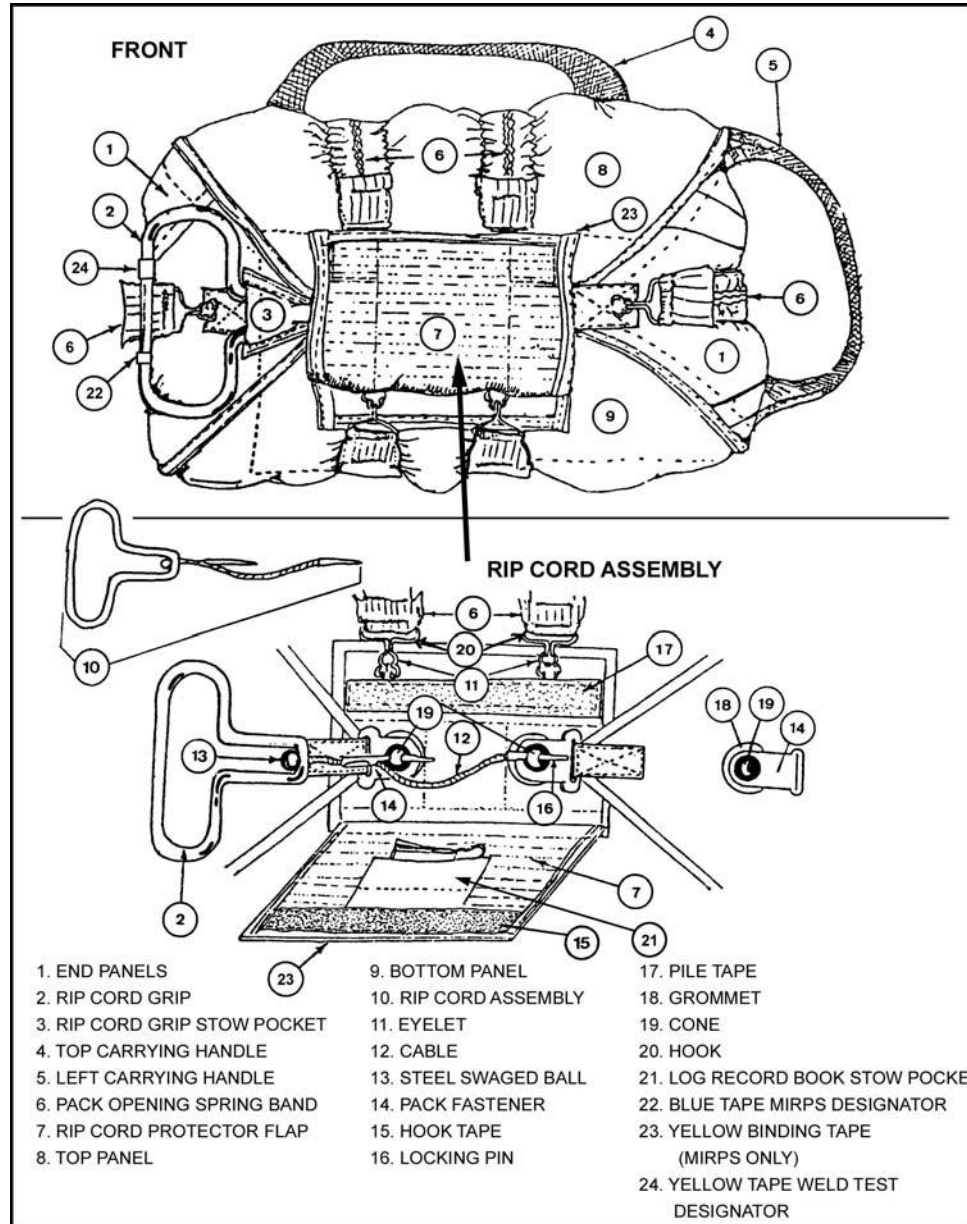
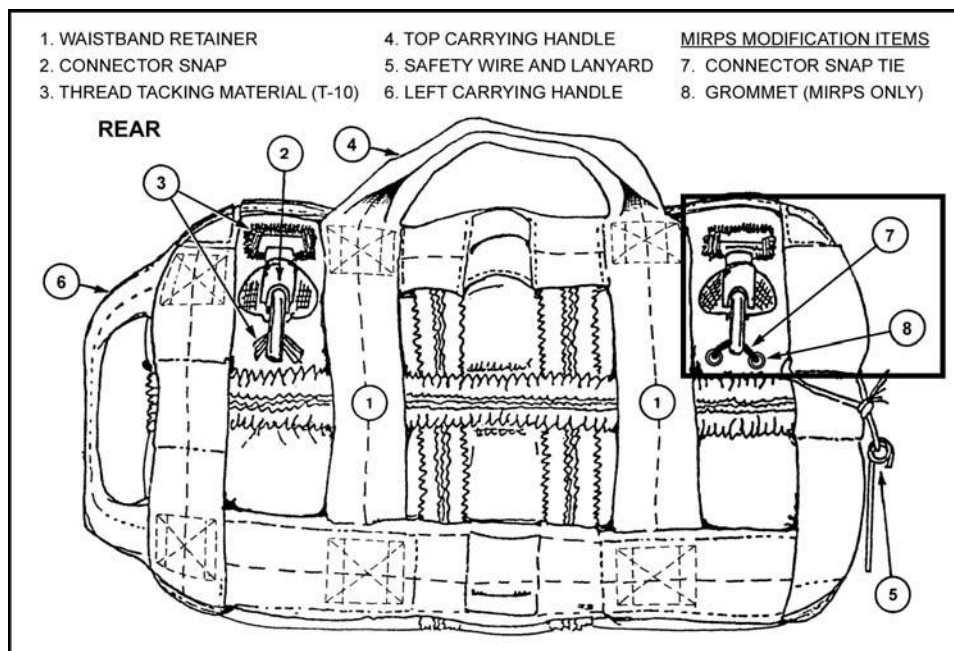

Figure 2-7. MIRPS/T-10 reserve parachute pack tray and nomenclature (front).
Figure 2-8. MIRPS/T-10 reserve parachute pack tray and nomenclature (back).
(1) An apex vent, 20 inches in diameter.
(2) Twelve suspension lines, 57 feet 6 inches long (measured from connector snap to connector snap), made of Type III nylon cord with a tensile strength of 550 pounds. On this parachute, the suspension lines serve three purposes:
(3) An upper lateral band of 1-inch tubular nylon with a tensile strength of 4,000 pounds.
(4) A lower lateral band of 1-inch nylon tape with a tensile strength of 525 pounds.
(5) Twenty-four gores with four sections in each gore.
(6) A 9/16-inch nylon V-tab reinforcement sewn into the lower lateral band of the parachute and wrapped around each suspension line.
(7) Twenty-four pocket bands.
e. **Pack Tray.** The MIRPS and the T-10 troop chest reserve use different pack trays that are almost identical on the outside (Figure 2-7 and Figure 2-8, page 2-12). Thus, an identifying yellow binding tape on the rip cord protector flap distinguishes the MIRPS. The major parts of the pack tray used for the MIRPS are the main panel and two end panels. The main panel forms a top and bottom flap, and the end panels form a right end flap and a left end flap. A rectangular metal pack frame is enclosed in a pocket formed in the bottom. The pack has two holes with lift-the-dot strap fasteners for attaching the MIRPS to the primary parachute harness using the connector snaps. A suspension-line free-bag deployment pouch is located on the inside of the container on the pack bottom. Canopy staging flaps are attached to the inside of the top and bottom flaps; these provide canopy retention.
c. **Pack Tray.** The pack tray is made of 12.29-ounce nylon or 7.25-ounce nylon on a rigid frame (Figures 2-7 and 2-8). It contains the parachute until activation. The pack tray is described as follows:
- (1) Carrying handles (top and left).
- (2) A safety wire and lanyard.
- (3) Four panels (right end panel, left end panel, top panel, and bottom panel) with attached eyelets.
- (4) Three pack opening spring bands with six running ends connected to six hooks.
- (5) A rip cord grip stow pocket sewn to the right-end panel.
- (6) A rip cord protector flap sewn to the bottom panel, with log record stow pocket on the inside of the rip cord protector flap.
- (7) Pack fasteners sewn to the left- and right-end panels.
- (8) Grommets and cones that keep the pack closed by inserting the locking pins of the rip cord assembly through the cones. (Grommets are on the top panel and cones are on the bottom panel.)
- (9) Two connector snaps to attach the reserve to the D-rings.
- (10) Two nylon waistband retainers through which the waistband is routed. The waistband retainers consist of a single piece of material sewn into the pack tray, which forms the reserve top carrying handle.